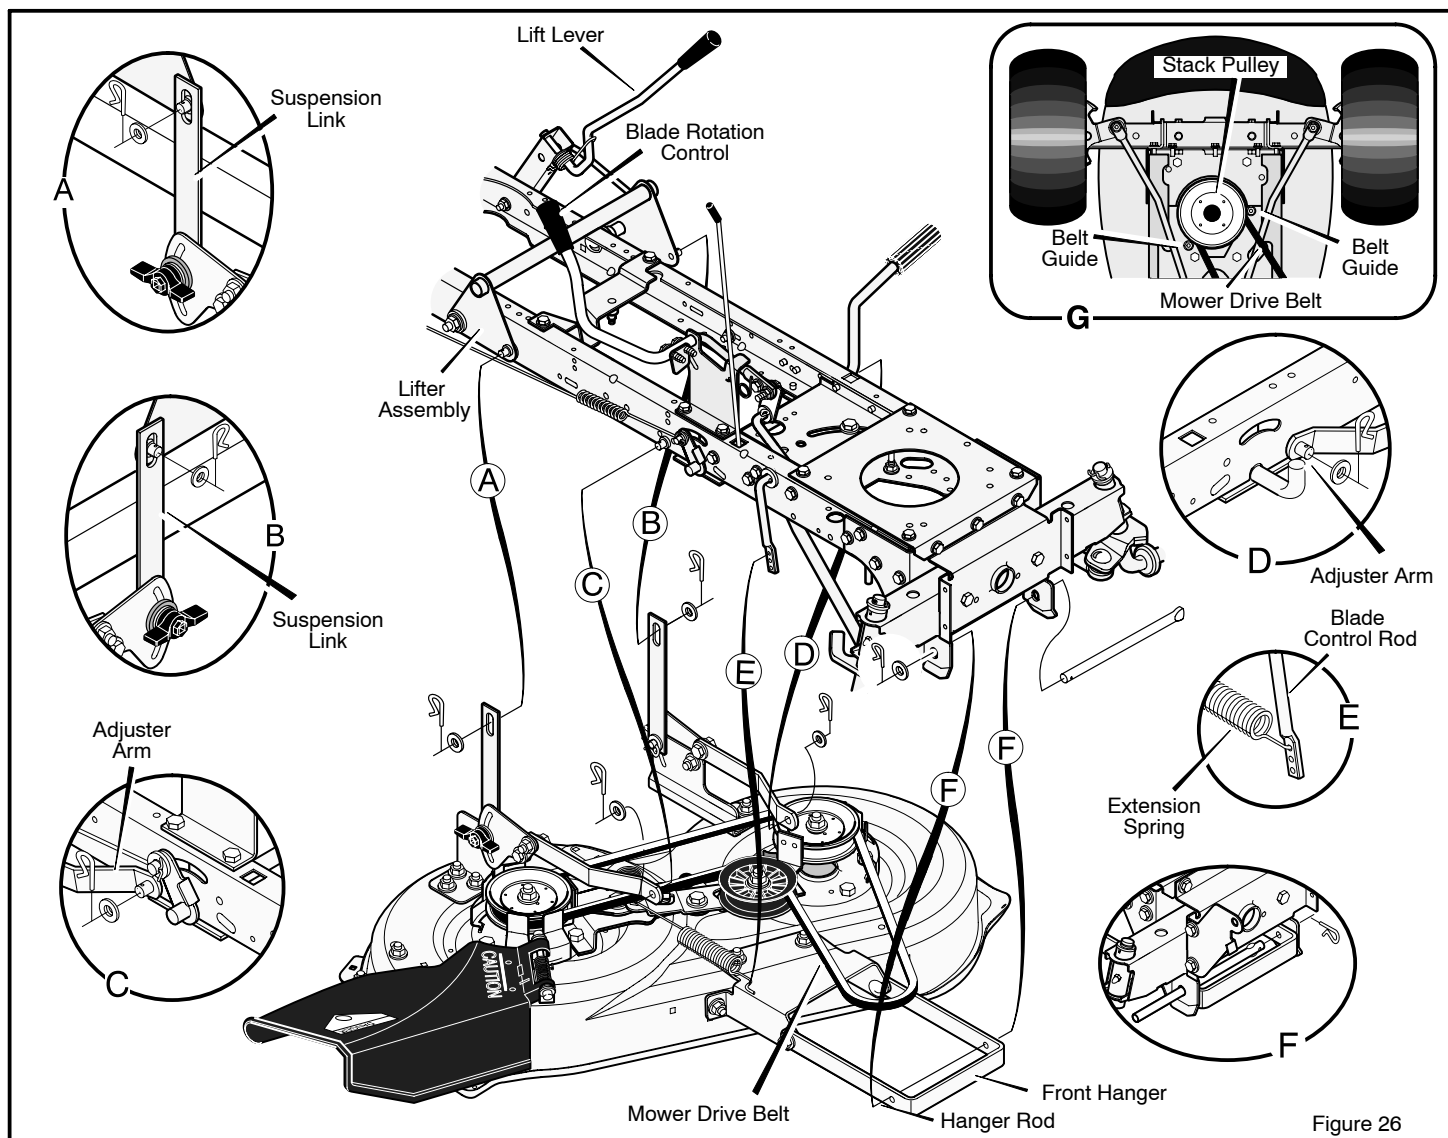

Figure 26
3. Remove the hair pins and the washers from the **adjuster arms** (Figure 26). See illustrations "C" and "D".